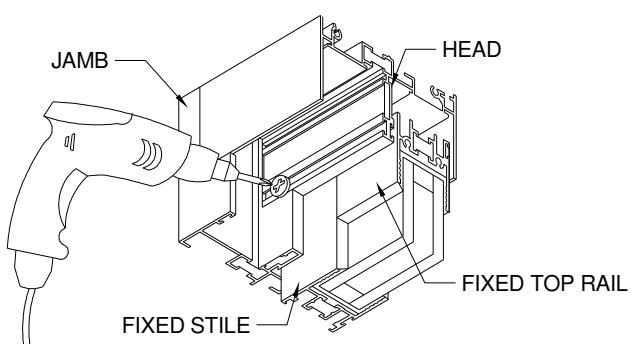

Figure 19:
3. From the interior, using a 1/8" drill bit, drill a hole into the fixed stile through the mohair channel (Figure 19). Then insert a black #8 x 3/4" FHP TEK security screw.